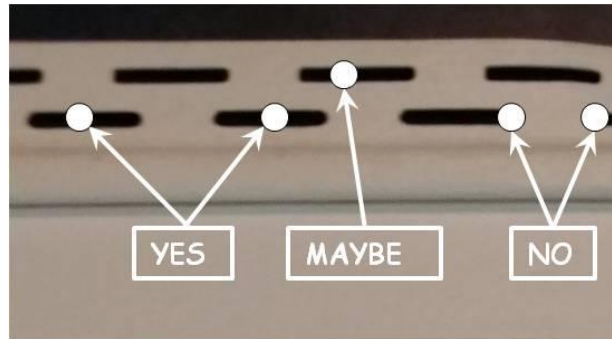

Figure 11-9. Nail Location in Siding Slots.
6. Always nail in the center of the slots in the lower row of slots and into a stud. Avoid nailing at angles: if a stud is not accessible from a slot in the lower row, use one of the offset slots in the upper row of slots (see Figure 11-9). If there is only a single row of slots, elongate the slot a smidge, using the slot tool, as necessary, to hit a stud. It's permissible to SLIGHTLY angle the nail to hit a stud as long as the head does not protrude so far that it will be visible on the next course. Always slide each piece of siding side-to-side ¼ - ½" after nailing to be sure there is adequate clearance for temperature changes.